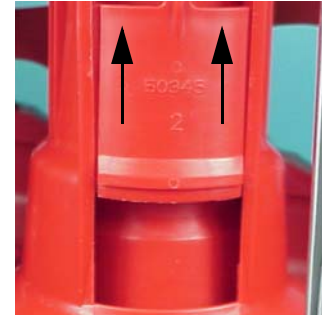

Figure 1. Open Brood Windows
2. Open brood windows on all feeders, see Figure 1.